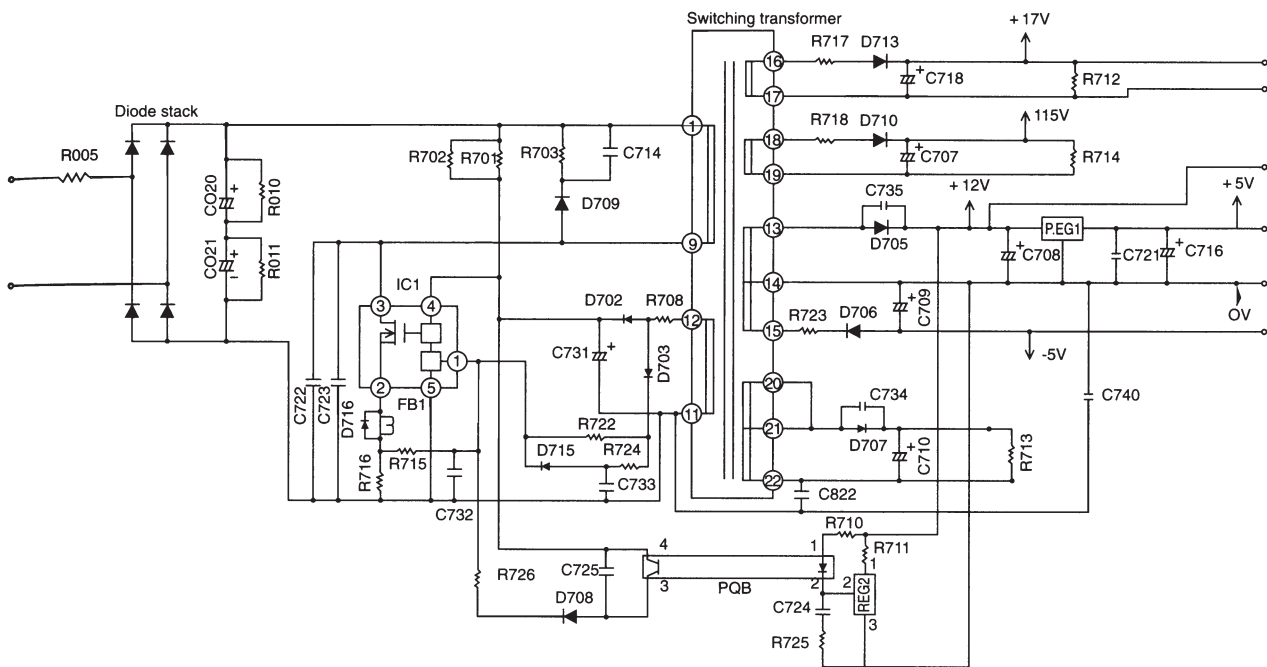

Fig. 4-1 Power circuit for P.W.B.
- Fig. 4-1 shows the power circuit for P.W.B.